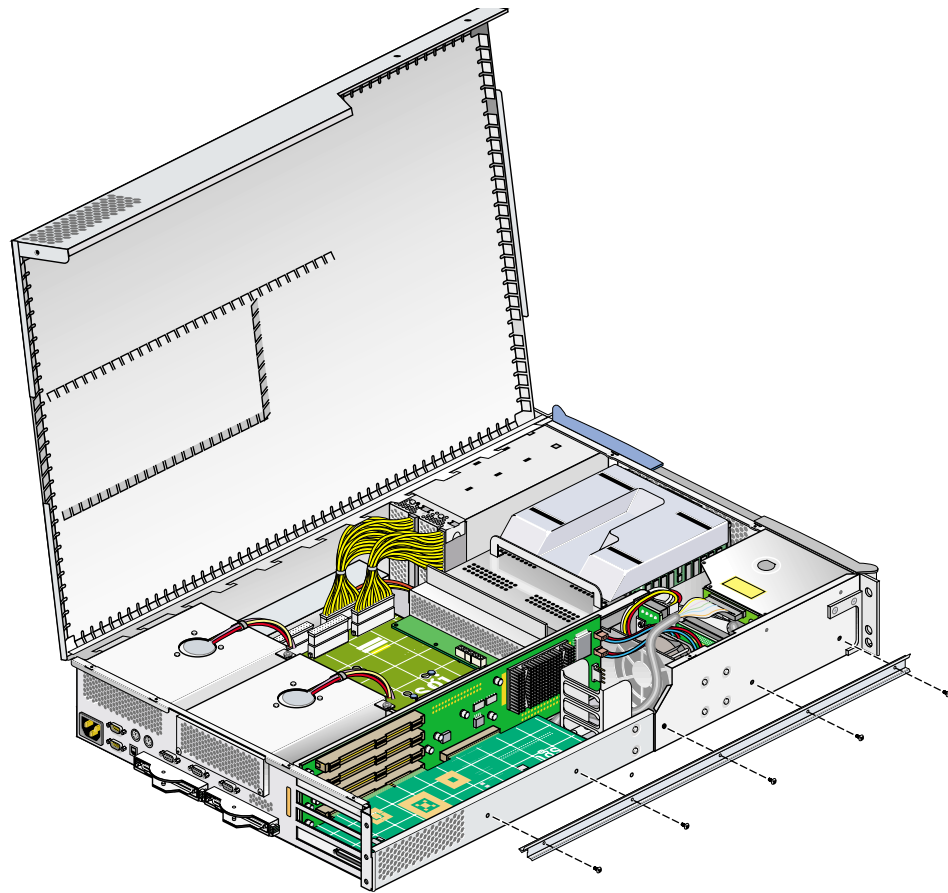

Figure 6-11 Removing the Chassis Rail
7. If you are removing a card from one of the two lowermost card slots, remove the chassis rail, by unscrewing the five Phillips screws as shown in Figure 6-11. (If you are not removing a PCI/PCI-X card from one of the two lowermost card slots, proceed to step 9.)